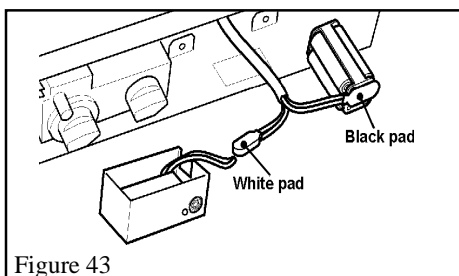

Figure 43
5. Remove the remote control receiver lid. Remove the cover from the **white** connection pad. Fit this connection pad to the remote control receiver terminals. See figure 43.
6. Fit the **black** connection pad to the battery holder. Fit four 1.5V batteries. See figure 43.